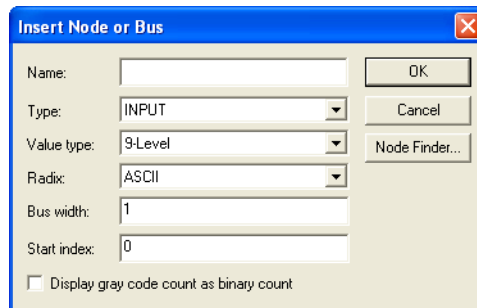
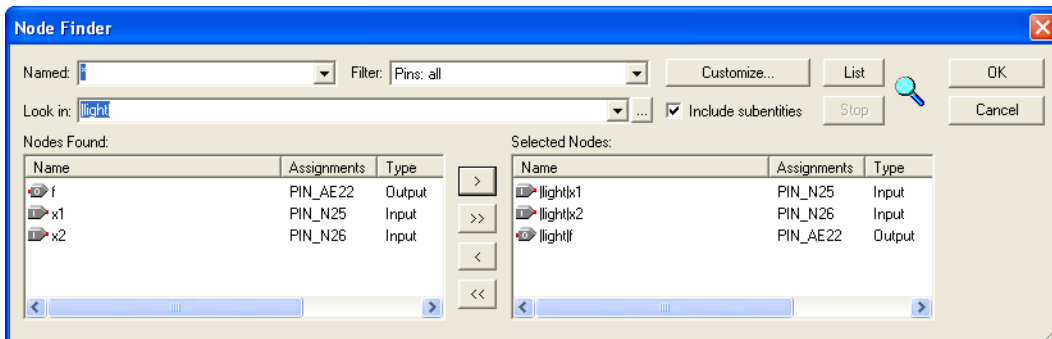

Figure 31. The Insert Node or Bus dialogue.
Figure 32. Selecting nodes to insert into the Waveform Editor.
- Next, we want to include the input and output nodes of the circuit to be simulated. Click **Edit > Insert > Insert Node or Bus** to open the window in Figure 31. It is possible to type the name of a signal (pin) into the Name box, but it is easier to click on the button labeled **Node Finder** to open the window in Figure 32. The Node Finder utility has a filter used to indicate what type of nodes are to be found. Since we are interested in input and output pins, set the filter to **Pins: all**. Click the **List** button to find the input and output nodes as indicated on the left side of the figure.
Click on the  $x1$  signal in the Nodes Found box in Figure 32, and then click the > sign to add it to the Selected Nodes box on the right side of the figure. Do the same for  $x2$  and  $f$ . Click OK to close the Node Finder window, and then click OK in the window of Figure 31. This leaves a fully displayed Waveform Editor window, as shown in Figure 33. If you did not select the nodes in the same order as displayed in Figure 33, it is possible to rearrange them. To move a waveform up or down in the Waveform Editor window, click on the node name (in the Name column) and release the mouse button. The waveform is now highlighted to show the selection. Click again on the waveform and drag it up or down in the Waveform Editor.